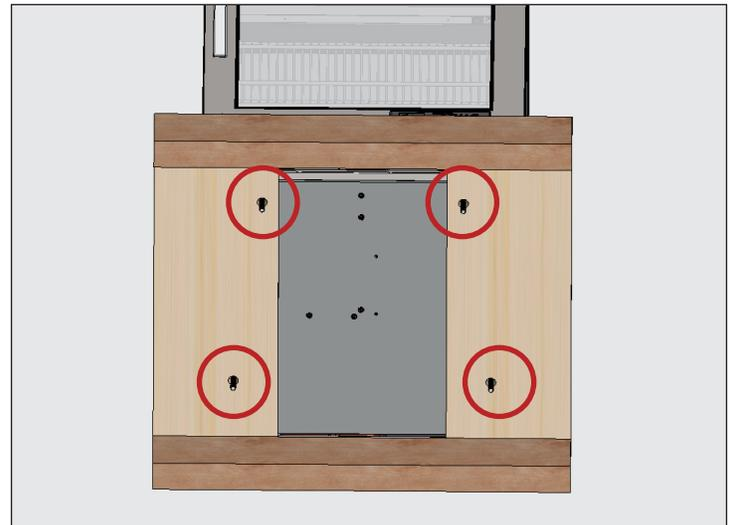

Fig. 2. Skid bolt locations..
2. With an adjustable wrench, remove all shipping bolts securing the wood skid to the bottom of the appliance. See fig. 2.